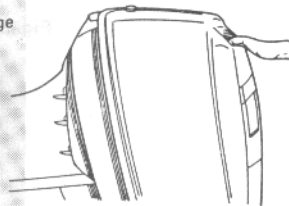

Fig. 36
- While holding a grip, located at the tilt handle on the rear of the upper motor cover, tilt up the motor by pulling it fully toward you, and it will be tilt-locked automatically. (Fig. 36)